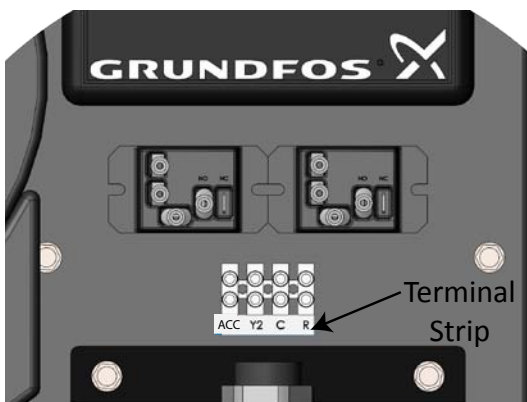

Figure 3: Low Voltage Wiring
4. Wire low voltage connections. For flow rate control (flow sensor), connect using 18 gauge 4 conductor thermostat wire to terminals ACC, Y2, C, and R from the heat pump to the terminal strip (figure 3). For temperature control (delta-T), connect ACC, C, and R (Y2 not needed).